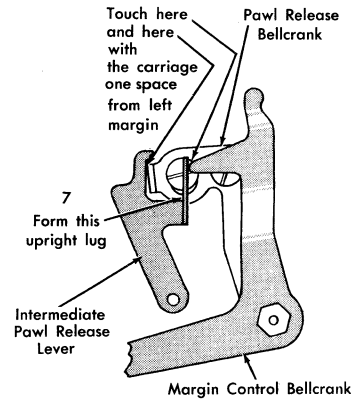

Figure 25. Intermediate Pawl Release Lever Adjustment
7. Form the upright lug of the intermediate pawl release lever so that the lug touches the margin control bellcrank and the pawl release bellcrank when the carriage is one space from the left margin (Figure 25).